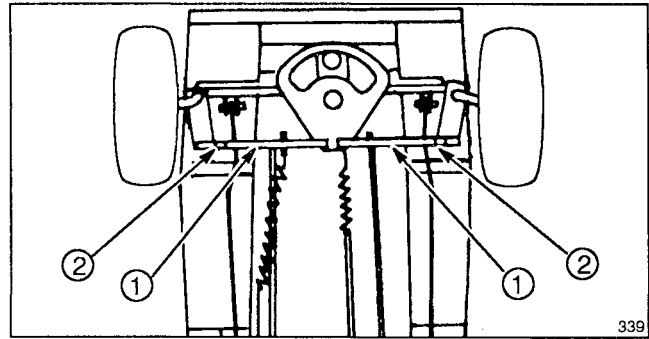

Figure 27
1. To align front wheels, loosen jam nut and turn tie rod until centerline distance across front of wheels (d'') is .06 inch (1.5 mm) to .25 inch (6.3 mm) less than centerline distance across rear of front wheels (d') (Figs. 27 & 28).